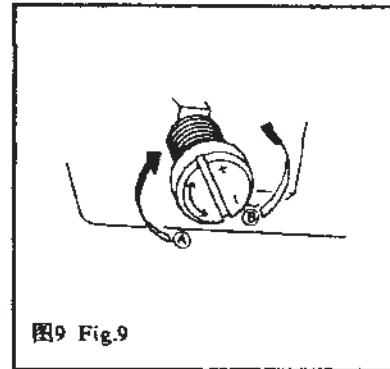

图9 Fig.9
c. 调节旋转油量（图 9）
c. Adjusting the oil of rotary hook (Fig 9)